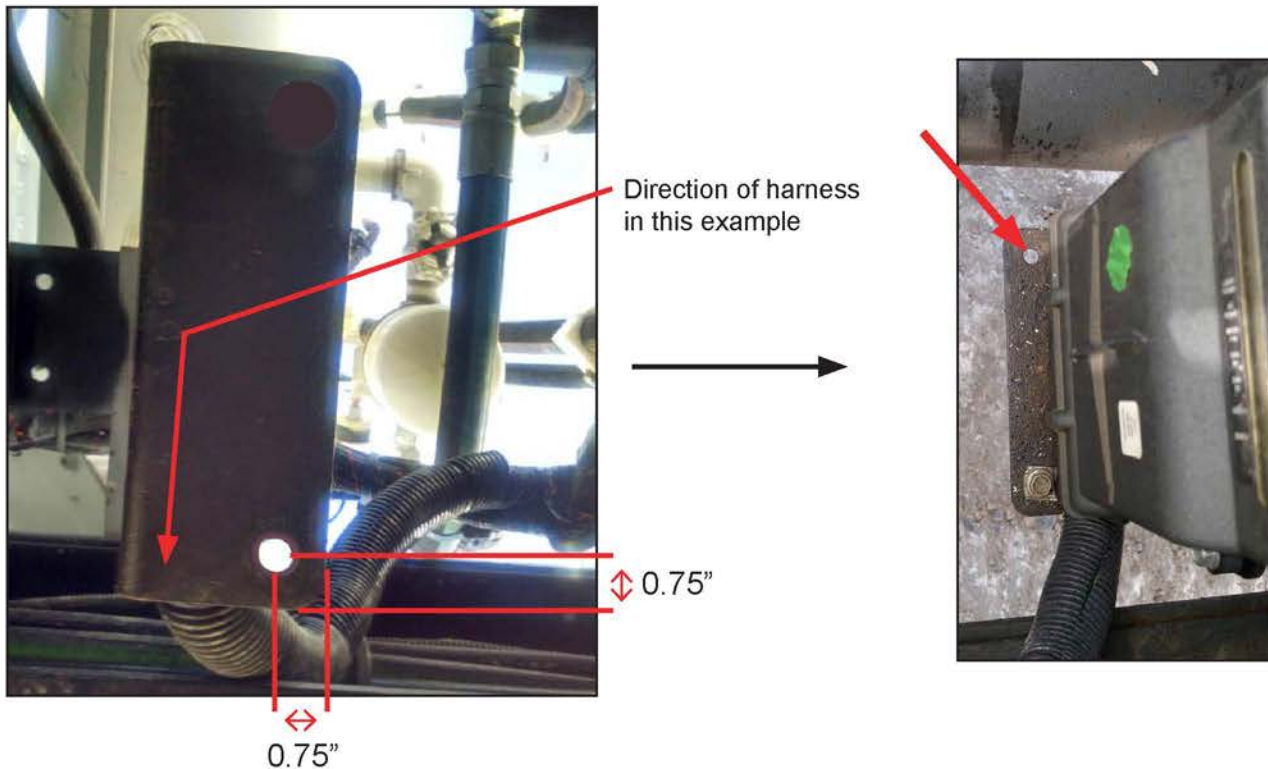

Figure 9: Location to drill hole for P-Clamp on control node bracket. Location varies depending on harness direction.
- If the bracket is missing a hole for the P-clamp, drill a .375" (3/8") hole located 0.75" away from the front edge of the bracket in the direction of the harness when facing the bracket (Figure 9).